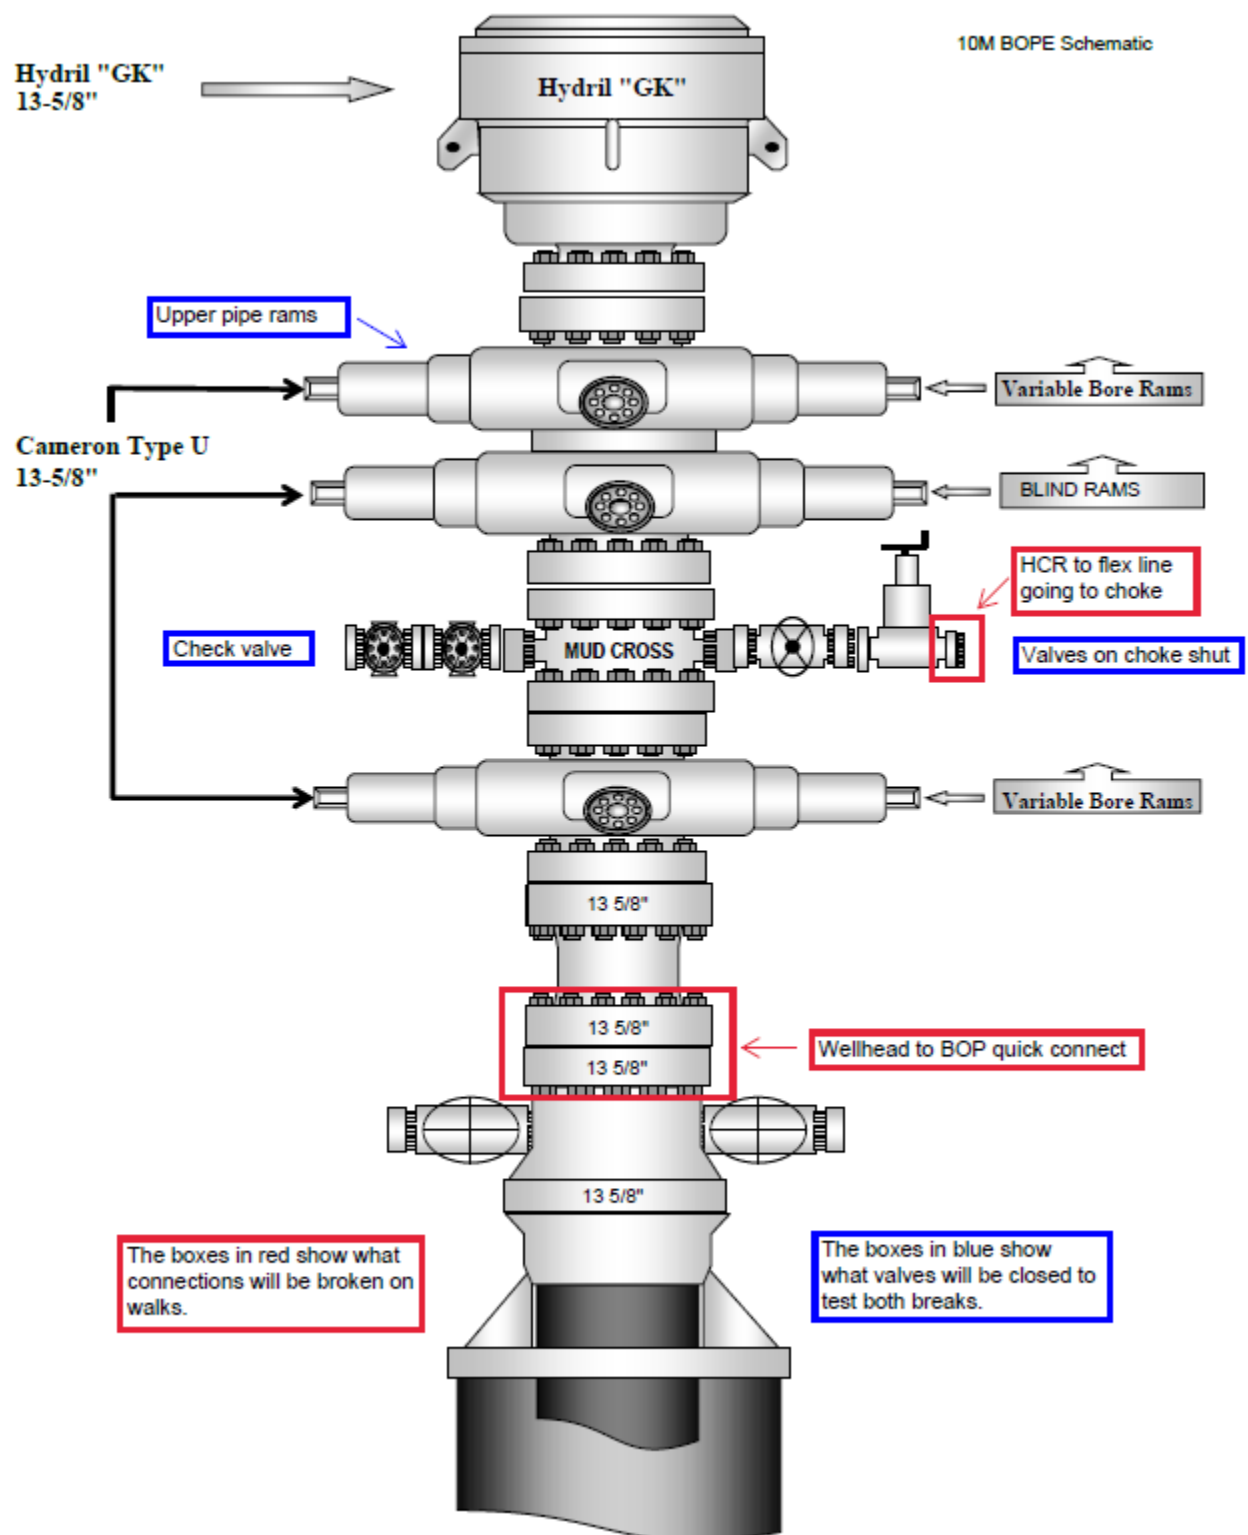

Figure 1. BOP diagram
2. After the well section is secured and the well is confirmed to be static, the BOP will be disconnected from the wellhead and walked with the rig to another well on the pad. Two breaks on the BOPE will be made (Fig. 1).
9. A test will then be conducted against the upper pipe rams and choke, testing both breaks (Fig. 1 & 2).
9. Make up offline cement tool with forklift per wellhead manufacturer (Fig. 1 & 2).